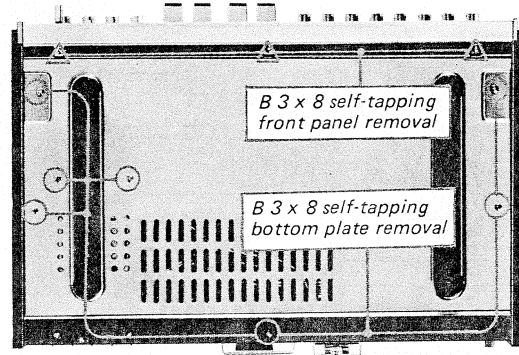

Fig. 2-1. Bottom view
1. Remove the seven screws shown in Fig. 2-1.
3. Remove the three screws from front top and bottom of the front panel as shown in Fig. 2-1 and 2-2.